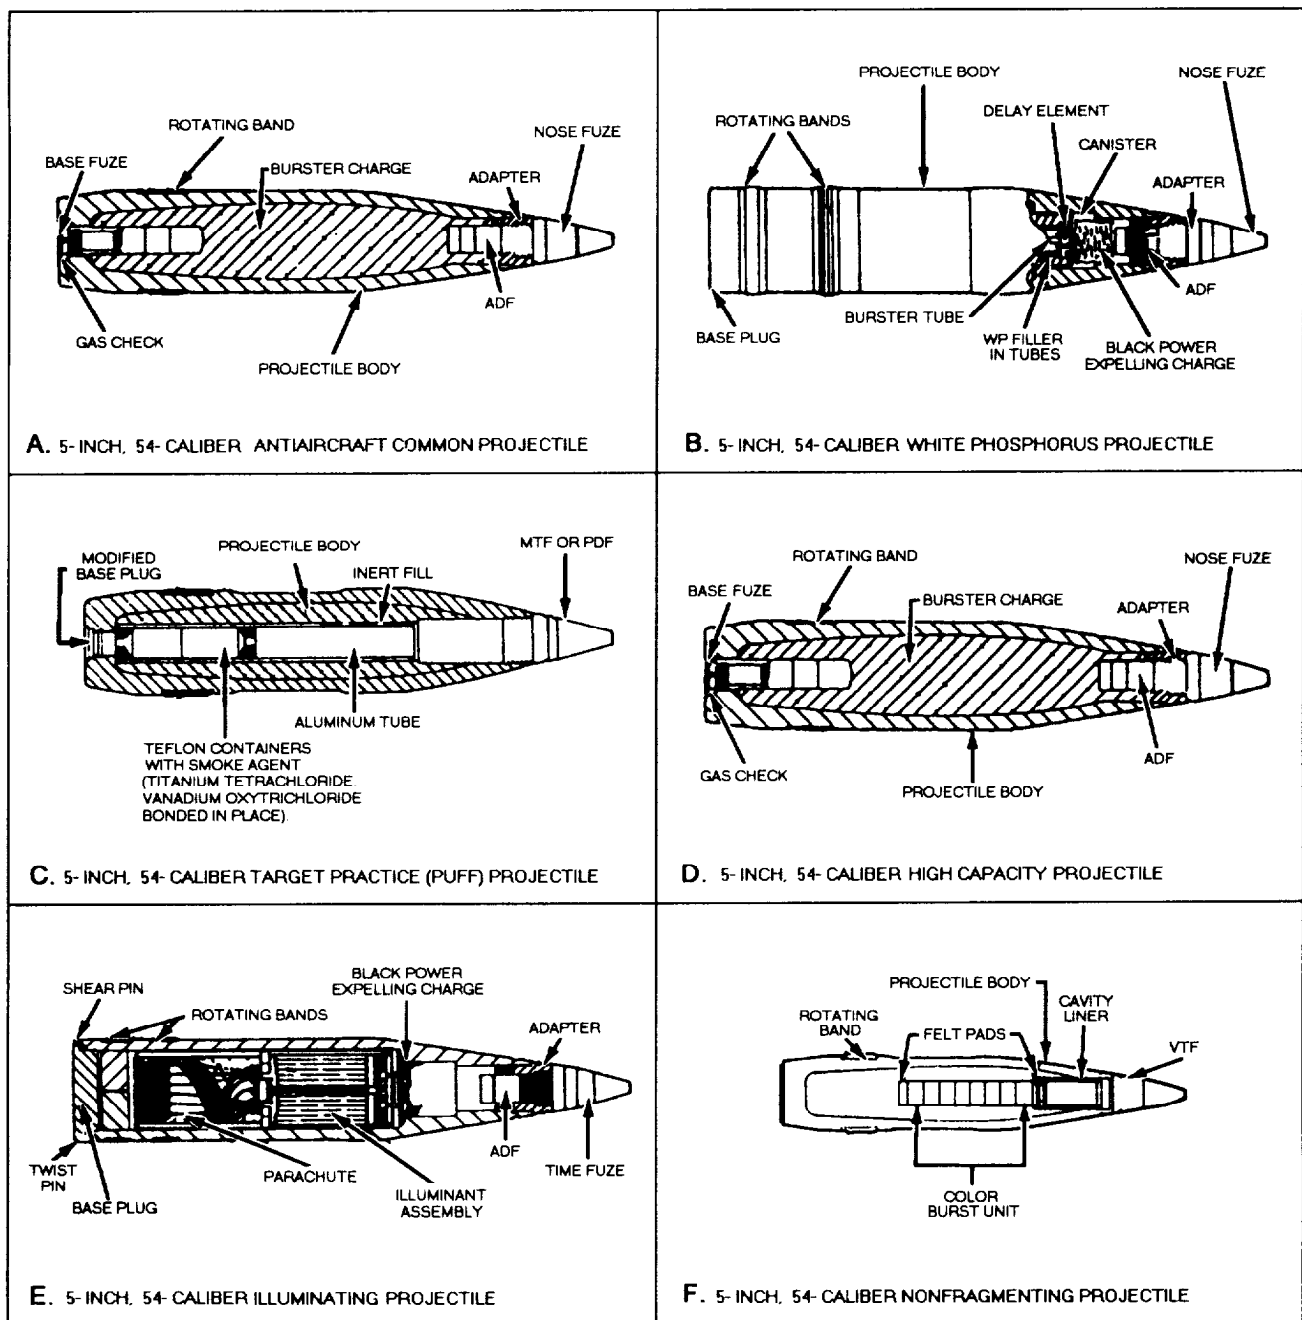

Figure 6-3.—Common projectile types.
Projectiles are also classified by their tactical purpose. The following are descriptions of some of the common projectile types (fig. 6-3).
ANTIAIRCRAFT COMMON (AAC).—Antiaircraft common projectiles are dual-purpose projectiles combining most of the qualities of the AA-type with the strength necessary to penetrate mild-steel plate (fig. 6-3, view A). However, AAC projectiles do not have the penetrating ability of common projectiles. The type of fuzing will depend on the use. Fuze threads are provided in the nose and in the base. AAC projectiles are normally equipped with a mechanical time fuze (MTF) and an auxiliary detonating fuze (ADF). Dual-purpose action is accomplished by a time setting for air burst or by setting MTFs on “safe” or for a time longer than flight-to-target to permit the base detonating fuze (BDF) (delay) to function for penetration. By substituting a point detonating fuze (PDF) for the MTF, you can convert these projectiles to high-capacity for surface burst.
CHEMICAL.—Chemical projectiles may be loaded with a toxic, harassing, or smoke-producing agent. Of the smoke agents, white phosphorous (WP) is the most frequently used. WP projectiles (fig. 6-3, view B) are designed to produce heavy smoke and, secondarily, an incendiary effect. The small WP containers are expelled and then scattered by a delayed action burster charge that is ignited by a black powder expelling charge. Other chemical loads are dispersed in a similar manner.
PUFF.—Puff projectiles (fig. 6-3, view C) are nonexplosive projectiles used as practice (spotting) rounds. They are designed to produce dense smoke clouds approximating those of high-explosive rounds.
Large HC projectiles (fig. 6-3, view D) are provided with an auxiliary booster to supplement the booster charge in the nose of the main charge. With threads in both the nose and base, HC projectiles may receive a variety of fuzes or plugs to accomplish different tactical purposes. An adapter ring (or rings) is provided on the nose end of most HC projectiles to allow installation of point detonating fuses (PDFs) or nose plug and auxiliary detonating fuses (ADFs) with different size threads. An adapter is removed for larger fuzes. HC projectiles are
ILLUMINATING (ILLUM).— Illuminating projectiles (fig. 6-3, view E) are made with thin walls. Each contains a time fuze, an ADF, a small black powder expelling charge behind the ADF, an assembly consisting of a pyrotechnic star or candle with a parachute, and a lightly held base plug. The time fuze serves to ignite the expelling charge. Explosion of the
VARIABLE TIME NONFRAGMENTING (VT-NONFRAG).— VT-NONFRAG projectiles (fig. 6-3, view F) are loaded to avoid rupturing the body and spreading fragments when the fuze functions; however, sometimes the projectile ogive breaks up into low-velocity fragments. They are designed for use in anti-aircraft target practice, particularly against expensive drone targets, for observing the results of firing without frequent loss of the drones. These projectiles have fillers of epsom salts or other inert material to give the projectile the desired weight. A color-burst unit, consisting of pellets of black powder and a pyrotechnic mixture, is placed in a cavity drilled in the center of the inert filler. The color burst is ignited through the action of the nose fuze and the black-powder pellets. The color-burst unit may be one of several colors that exits through the fuze cavity and ruptured projectile.